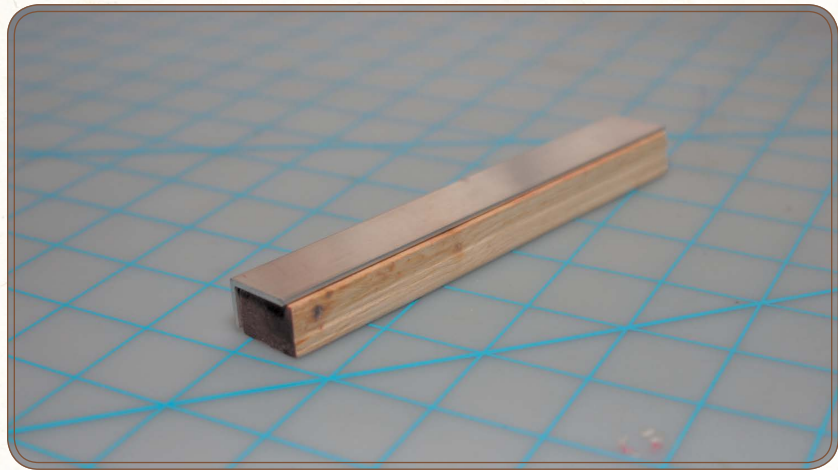

Figure 2.1: The aluminum angle iron glued to the dowel
1. To begin, you'll need to assemble the key's lever or tapper. To do so, line up the aluminum angle iron with the $\frac{1}{2}$ -inch square dowel along its length and then glue it to the dowel shown in Figure 2.1.